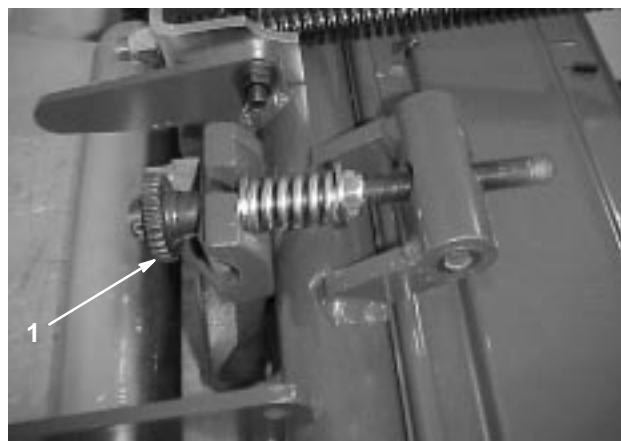

Figure 21
- Loosen reel to bedknife contact by turning the bedknife adjusting knob (Fig. 21) counter-clockwise until no contact exists.